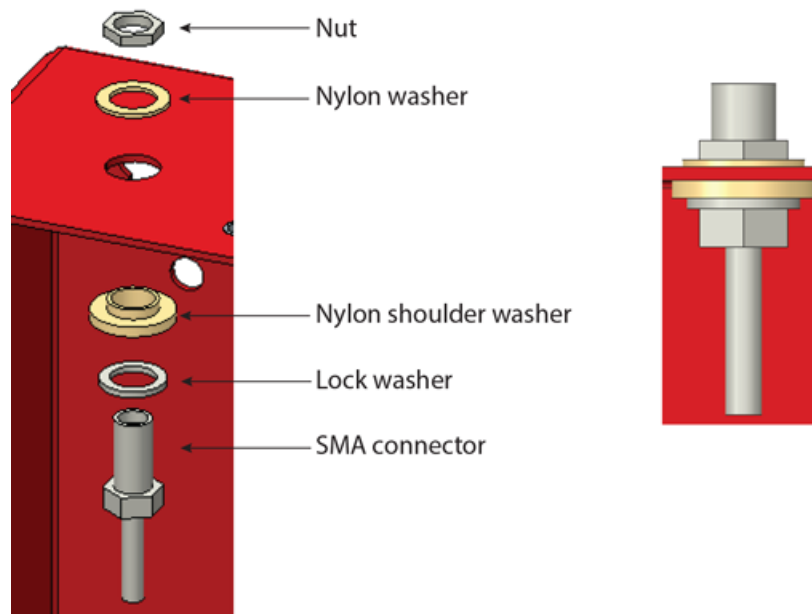

Figure 6: Installing the antenna cable
3. Place the lower, thicker nylon shoulder washer on top of the lock washer, with the collar side facing up, see Figure 6.